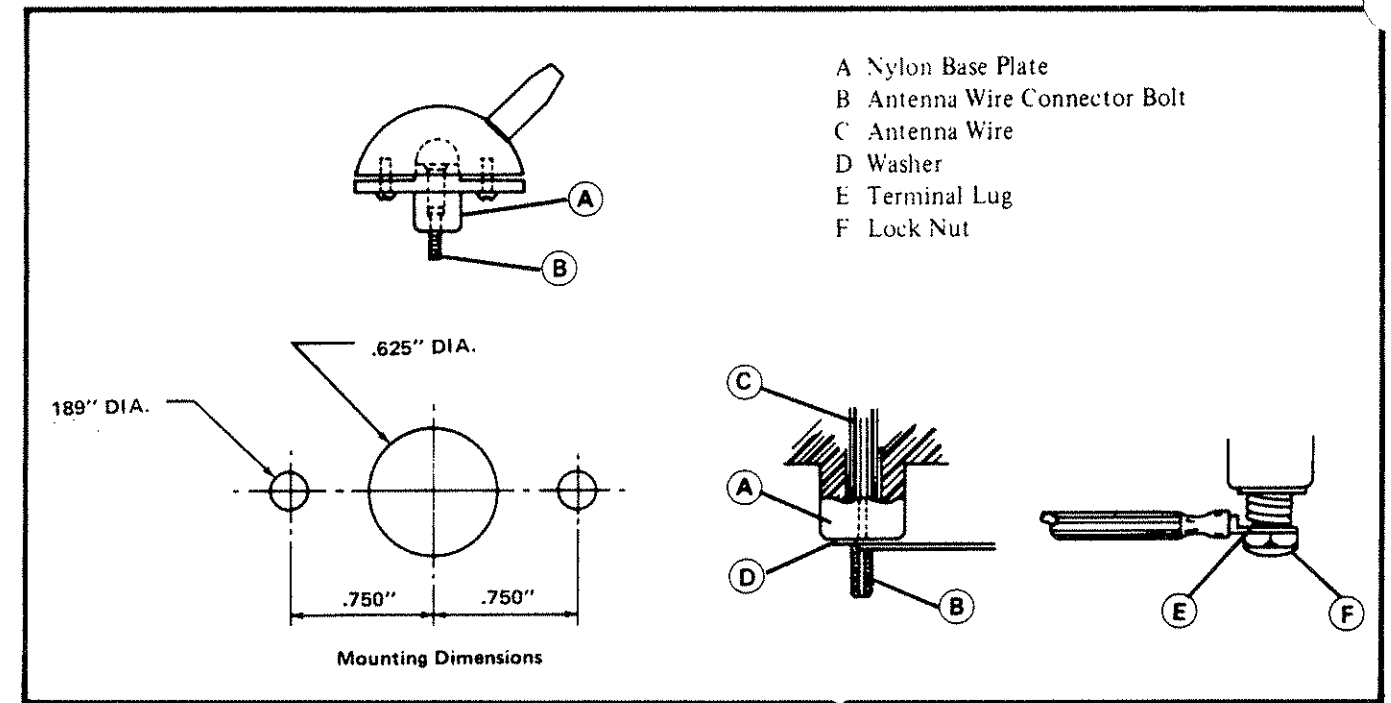

Figure 2.8 Feed-Thru Insulator
For proper installation of the Feed-Thru Insulator (PN0713080001, Item 1 of Table 2.1) refer to Figure 2.8 and the following text.
Strip back polyethylene shield (C) to expose approximately 4" of antenna wire core. Insert core into connector bolt (B) and extract from slot. Insert washer (D) as shown. Wind wire around connector bolt (B) 3½ to 4 turns. Install terminal lug (E) of antenna lead and secure with lock nut (F), as shown in Fig. 2.8.